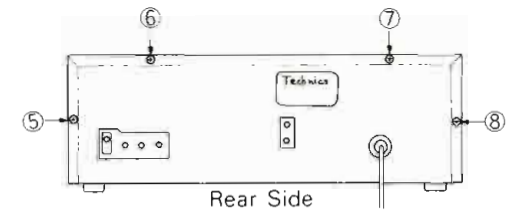

Fig. 6
- Remove the 4 screws. (nos. ⑤ ~ ⑧ screws in fig. 6).